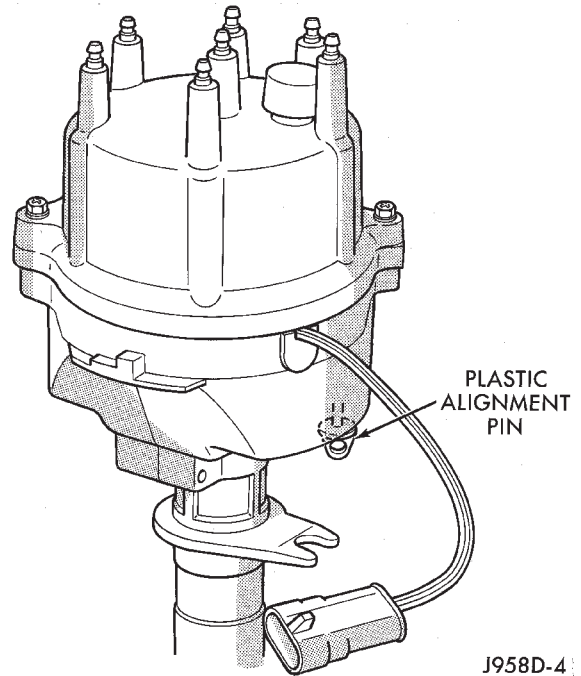
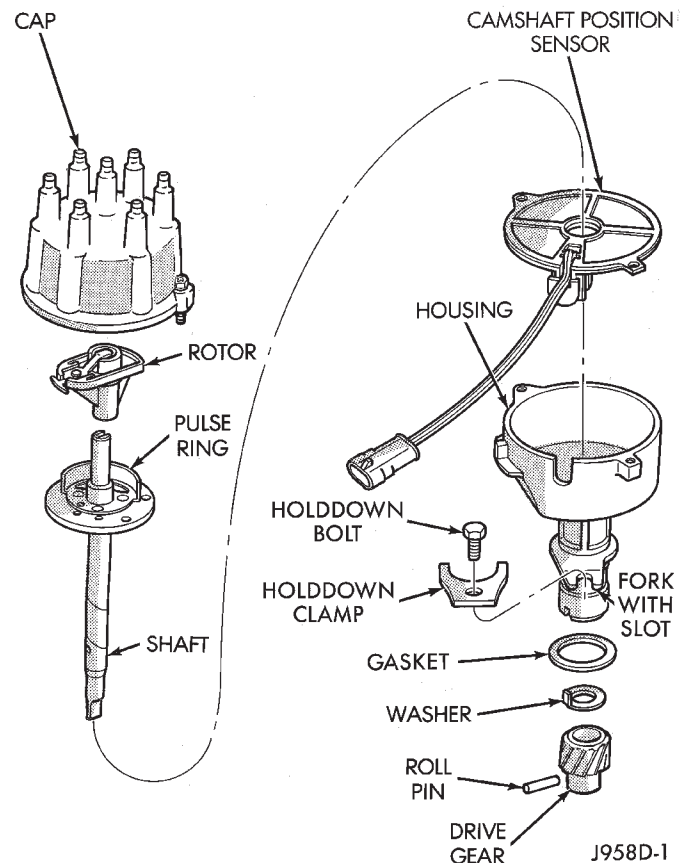
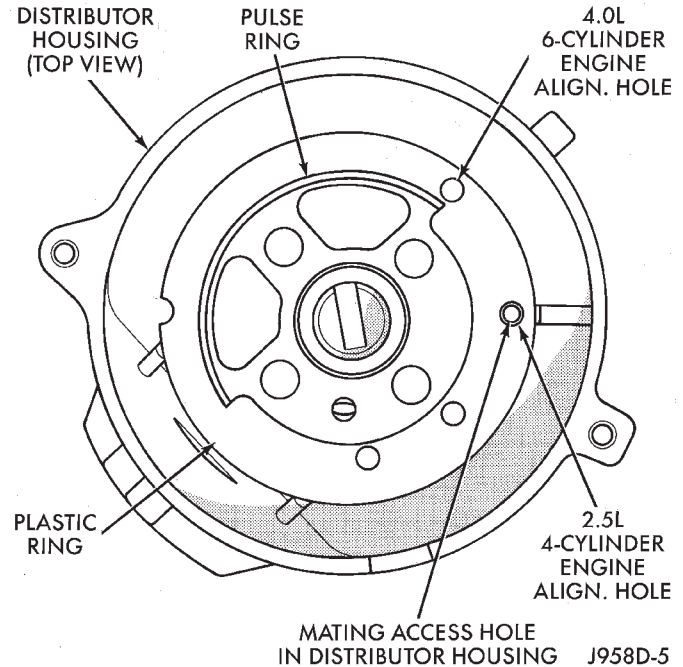

Fig. 33 Plastic Alignment Pin
Fig. 34 Distributor—2.5L Or 4.0L Engines—Typical
Fig. 38 Pin Alignment Holes
Factory replacement distributors are equipped with a plastic alignment pin already installed. The pin is located in an access hole on the bottom of the distributor housing (Fig. 33). It is used to temporarily lock the rotor to the cylinder number 1 position during installation. The pin must be removed after installing the distributor.
The camshaft position sensor is located in the distributor on all engines (Fig. 34). For removal/installation procedures, refer to Camshaft Position Sensor. Distributor removal is not necessary for sensor removal.
Refer to (Fig. 34) for an exploded view of the distributor.
A fork with a slot is supplied on the bottom of the distributor housing where the housing base seats against the engine block (Fig. 34). The centerline of the slot aligns with the distributor holddown bolt hole in the engine block. Because of the fork, the distributor cannot be rotated. Distributor rotation is not necessary as all ignition timing requirements are handled by the powertrain control module (PCM).
(3) Factory replacement distributors are equipped with a plastic alignment pin already installed (Fig. 33). This pin is used to temporarily hold the rotor to the cylinder number 1 firing position during distributor installation. If this pin is in place, proceed to Step 8. If not, proceed to next step.
(4) If the original distributor is to be reinstalled, such as during engine overhaul, the plastic pin will not be available. A 3/16 inch drift pin punch tool may be substituted for the plastic pin.
(5) Remove the camshaft position sensor from the distributor housing. Lift straight up.
(6) Four different alignment holes are provided on the plastic ring (Fig. 38). **Note that 2.5L and 4.0L engines have different alignment holes (Fig. 38).**
(7) Rotate the distributor shaft and install the pin punch tool through the proper alignment hole in the plastic ring (Fig. 38) and into the mating access hole in the distributor housing. This will prevent the distributor shaft and rotor from rotating.
(8) Clean the distributor mounting hole area of the engine block.
(9) Install a new distributor-to-engine block gasket (Fig. 34).
(10) Install the rotor to the distributor shaft.